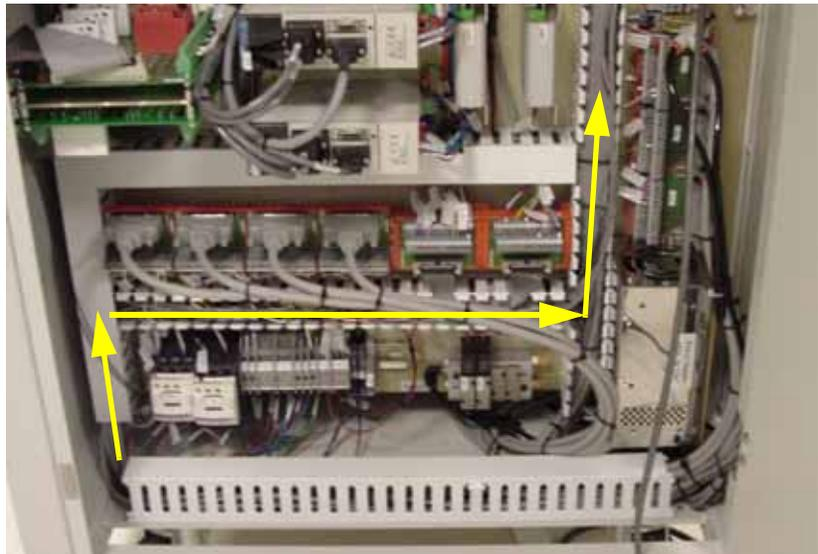

Figure 1-54—Route wires as indicated by arrows
- 7i) Route the wire harness through the cable guides as indicated by the arrows in *Figure 1-54*.